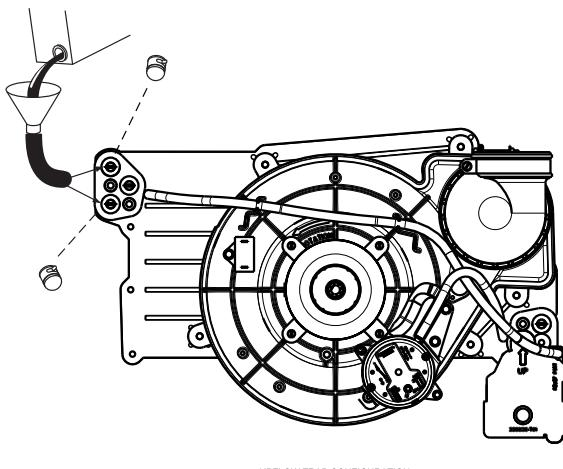

Fig. 61 – Priming Condensate Trap
1. Remove upper and middle collector box drain plugs opposite of the condensate trap. See Fig. 61.
2. Connect field-supplied 5/8-in. (16 mm) ID tube with attached funnel to upper collector box drain connection. See Fig. 61.